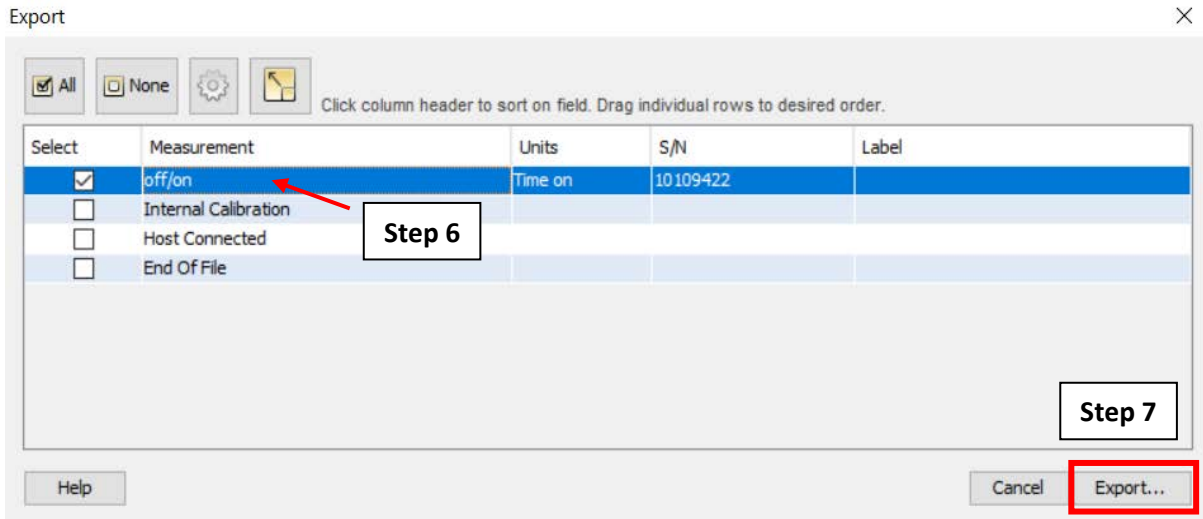

Figure A.4.20: The “Export” Window and corresponding steps.
4. The “Export” window will open and display the data available to export (Figure A.4.20).